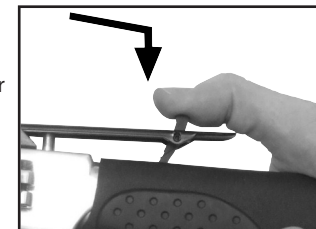

Fig. 11
5. Use your thumb to move the safety bar backwards before squeezing the throttle lever (See fig. 11). The amount the throttle lever is pressed down, will determine the speed of the tool.